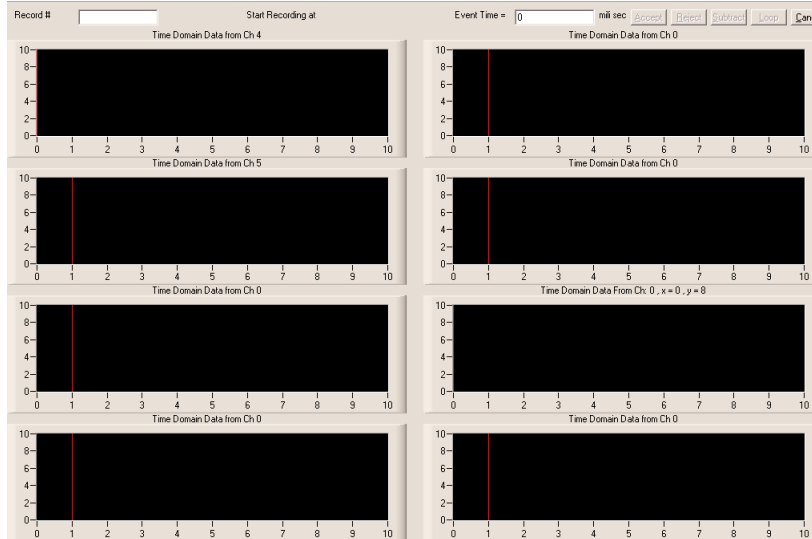

Figure 1: SHM Start-up Screen
2. Next the data parameters must be set. To do this, go to "Acquisition/Parameter Setup". A dialog box as shown in Figure 1 should appear on the screen. It should be noted that these are common values used by Olson Engineering. However, each test location may require different parameters. For more information, please consult Olson Engineering technical support.